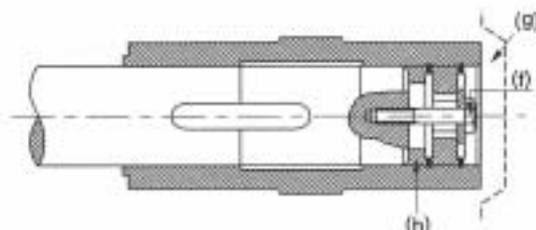

Fig. 11 Securing (Driven shaft without shoulder)
#### Special cases (Fig. 11)
- (1) If the driven shaft has no shoulder (Fig. 11) when mounting, provide a distance ring (h) for fixing in place. (Distance ring (h) is not supplied with the unit.)